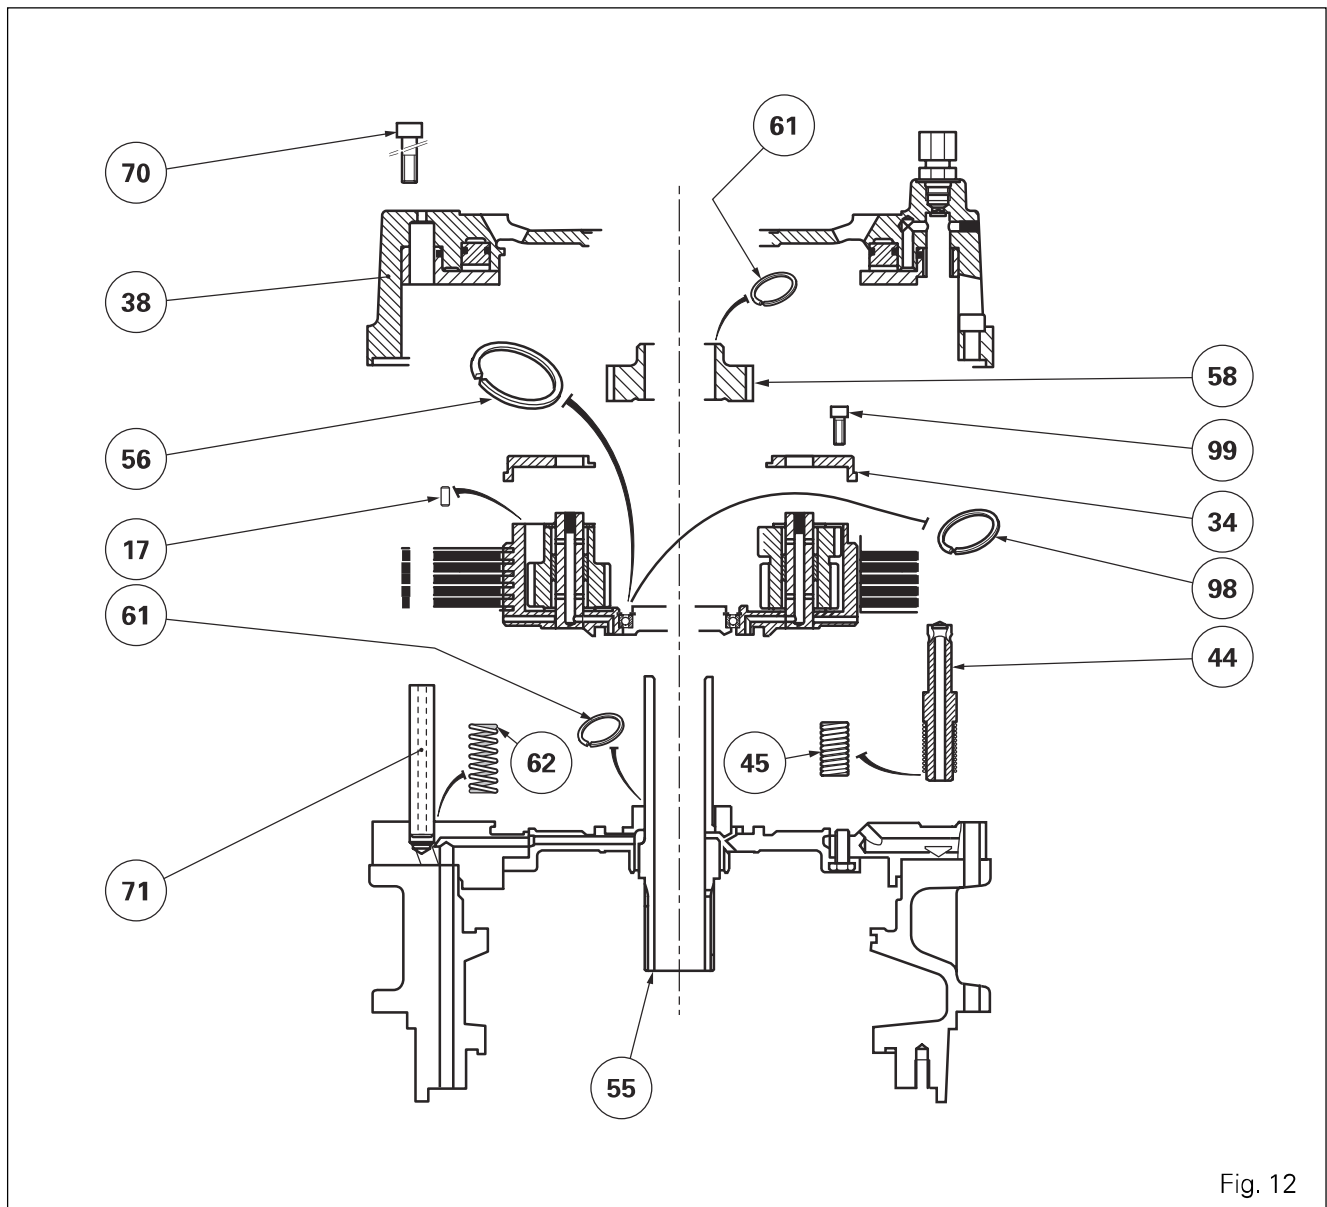

Fig. 12
Disassembly (Fig. 12)
67. Remove screws (99) securing the cover (34) (Fig. 12 -12A) and remove it.
68. Remove the discs (47) and the intermediate plates (46).
69. Separate the output sun gear (58), held by the snap rings (61), from the primary shaft (55) (Fig. 12).
70. Remove snap ring (98) (Fig. 12).
71. Remove the planet carrier (49) with the double and single pinion gears (52) (59).
72. **On the planet carrier (49), remove:**
- the plates (63)
- the double pinion gears (52) and the pins (50). Note and mark their location.
- the single pinion gears (59) and pins (50). Note and mark their location.
- the snap ring (56) and bearing (57).
83. Check that the centering pin (17) is fitted (Fig. 12).
84. Refit cover (34). Check that it is correctly positioned on the pins (50) of the pinion gears and in the centering pin (Fig. 12).
86. Fit and tighten screws (99) (Fig. 12) to a torque of 36 - 46 Nm with the threads previously lightly smeared with Loctite 242 or equivalent.
87. On cover (38), check for the presence of rivets (40) at the end of the channels and refit:
- piston (39) with new lubricated seals (36) (41), gradually and alternately striking around the piston rim with a plastic mallet. Check that no fragments of the seal remain after assembly,
- plate (43) with a new lubricated seal (42), aligning the holes of the plate with those in the cover (38). Insert the plate using the same method as used for piston (39).
92. Pre-tighten screws (70).
93. During pre-tightening, check that the spools (44) still slide freely. Also check that each end of the (thick section) springs (62) are correctly housed in their bases.
94. Definitively tighten the screws (70) (Fig. 12) to a torque of 29 - 37 Nm. After completing the tightening, check the sliding movement again and return of each spool to its initial position.